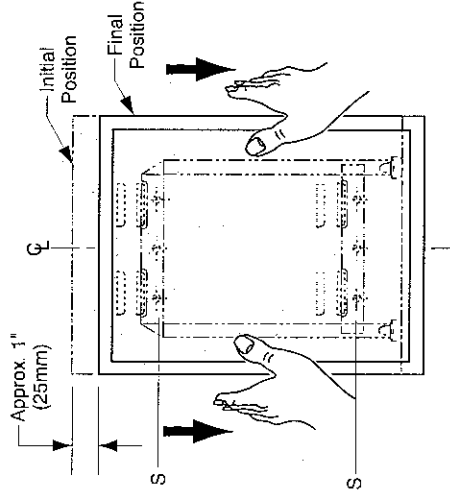

Figure 3
**Snap Locking Design** — Locking devices automatically secure mirror to concealed wall hanger when it is lowered into final position. Locking devices may be unlocked by inserting two flat blade screwdrivers behind each side of mirror near the bottom or under the bottom of the mirror and pulling mirror bottom forward and then up (see figure 3)